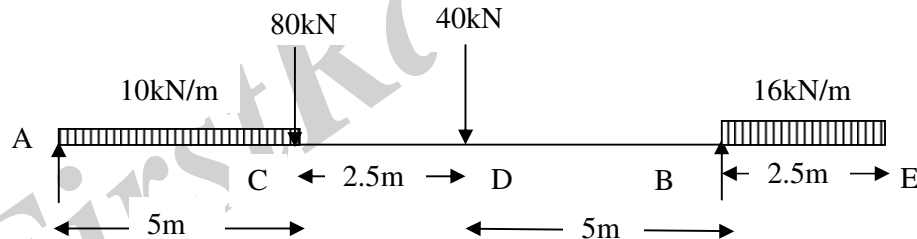

Figure 4
6. Draw Shear forces and bending moment diagrams for the beam in Figure 4. Indicate the numerical values at all important sections.